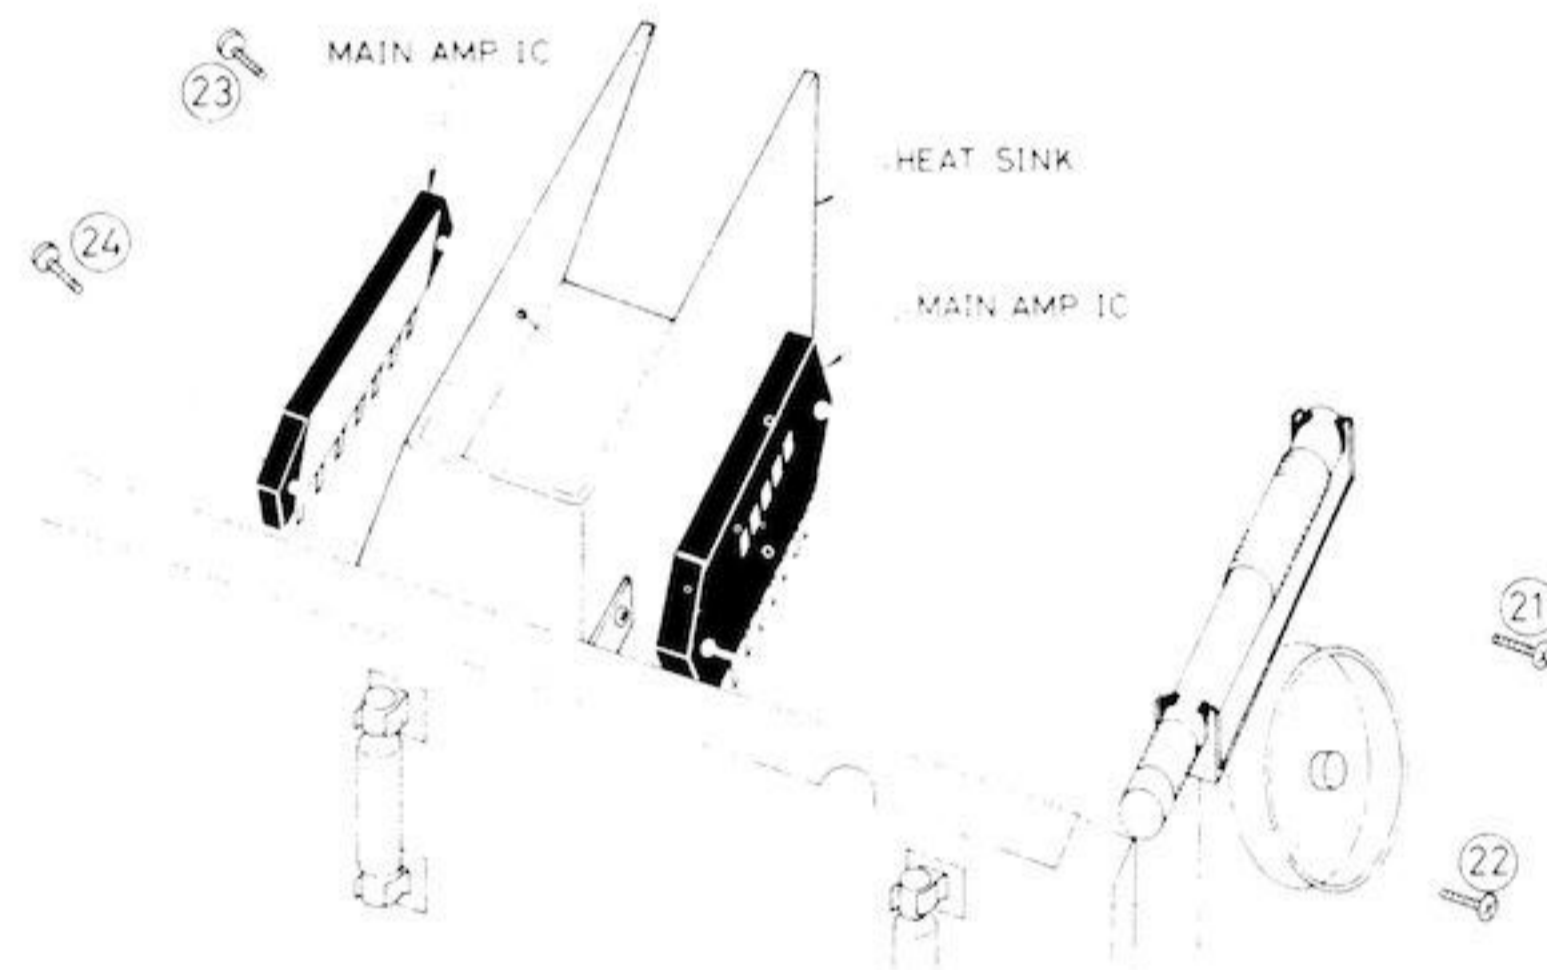

Fig. 3
5. Remove four (4) I.C. -mounting screws, nos. ㉑ ~ ㉔ as shown in fig. 3.